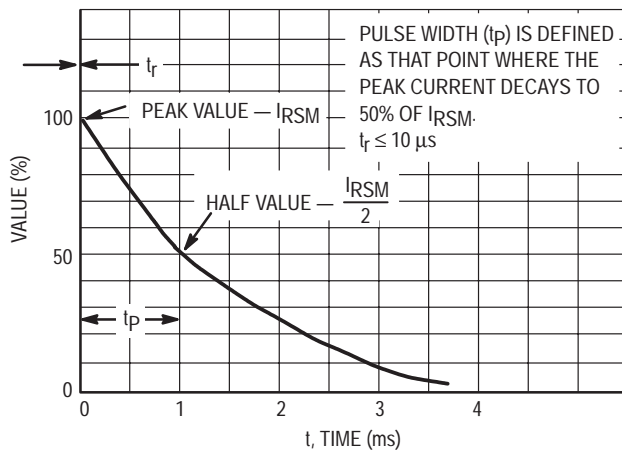
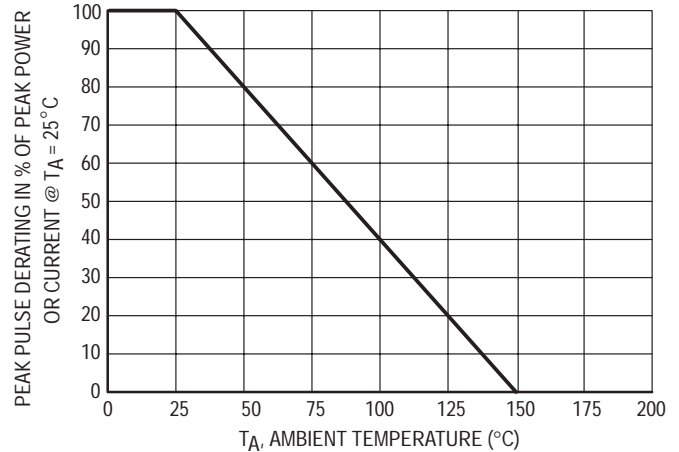

Figure 5. Pulse Waveform
Figure 6. Pulse Derating Curve
- Peak Power — 24 or 40 Watts @ 1.0 ms (Unidirectional), per Figure 5 Waveform
NOTES: 1. Non-repetitive current pulse per Figure 5 and derate above $T_A = 25^\circ\text{C}$ per Figure 6.
(4) Surge current waveform per Figure 5 and derate per Figure 6.
(5) Z_{ZT} and Z_{ZK} are measured by dividing the AC voltage drop across the device by the AC current supplied. The specified limits are $I_{Z(AC)} = 0.1 I_{Z(DC)}$, with AC frequency = 1 kHz.